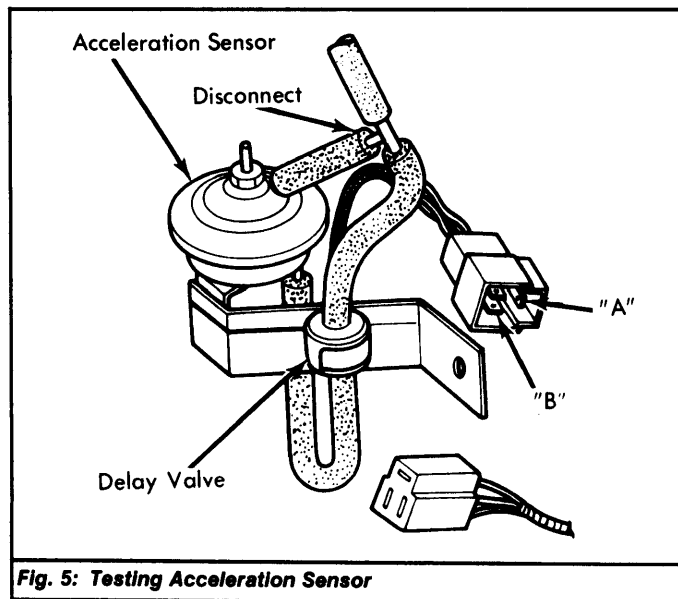

Fig. 5: Testing Acceleration Sensor
**Auto. Trans. & Calif. Man. Trans. Equipped Models** - Disconnect vacuum switch and connect an ohmmeter to terminals "A" and "B". See Fig. 5. Start and run engine at idle. No continuity should exist between terminals. Disconnect vacuum sensing tube from vacuum switch. Continuity exists between both terminals.